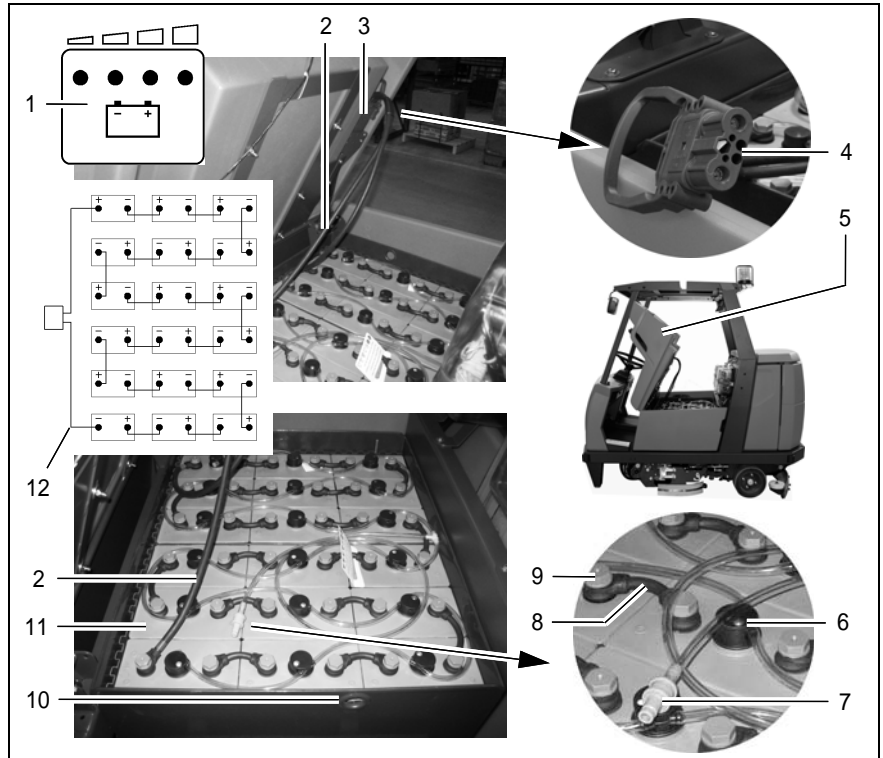

Fig. 23
The seat console (Fig. 23/5) must be open during the battery charging process to prevent the development of explosive oxyhydrogen!
We recommend charging the battery when at least one dot of the battery indicator has gone out after operating the vehicle. The indicator (Fig. 23/1) also indicates the charge status of the batteries during the charging process.
- Connect the battery plug (Fig. 23/4) to the battery charger supplied.
The battery cells are provided with fill level indicators (Fig. 23/6) which ensure the correct height of electrolyte is maintained: The white point must be clearly visible at the top. If this is not the case, distilled water must be refilled.
Topping up the battery is completed via the connection coupling, the aquamatic plug (Fig. 23/7), which is then connected to the water filling device. This is not part of the scope of delivery.